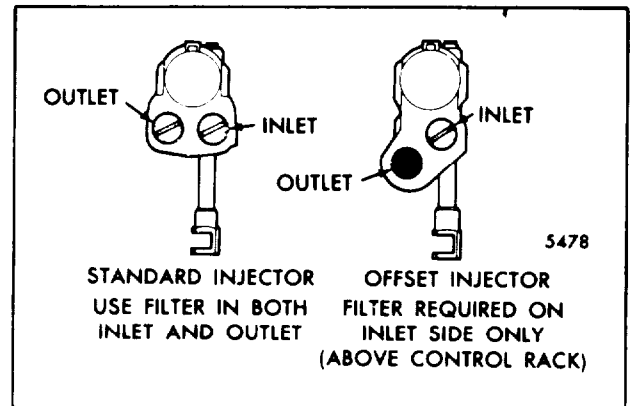

Fig. 34 - Location of Filter In Injector Body
**NOTE:** Whenever a fuel injector is disassembled, discard the filters and gaskets and replace with new filters and gaskets. *In the offset injector, a filter is used in the inlet side only. No filter is required in the outlet side (Fig. 34).*
Study Figs. 34 through 37 for the proper relative position of the injector parts. then proceed as follows:
**NOTE:** Install a new filter in the inlet side (located over the injector rack) in a fuel injector with an offset body. No filter is required in the outlet side of the offset body injector (Fig. 34).